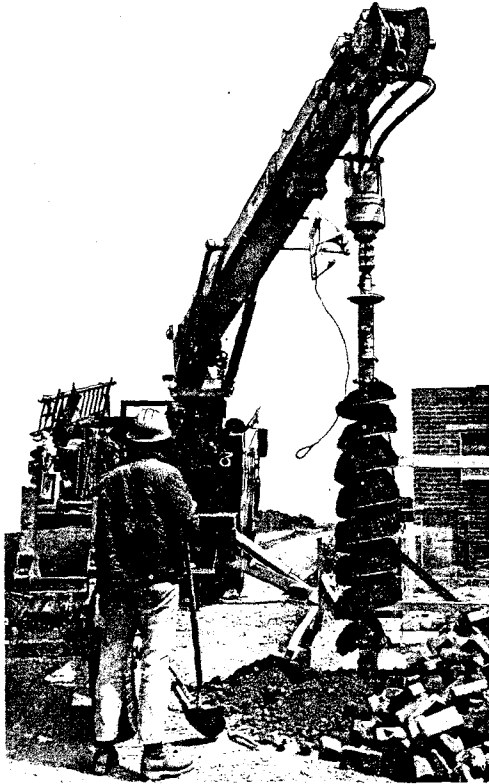

Fig. 7—Preparing to Spin Off Spoil
5.09 When the auger is clear of the hole (Fig. 7), spoil can be spun off by rotating the auger